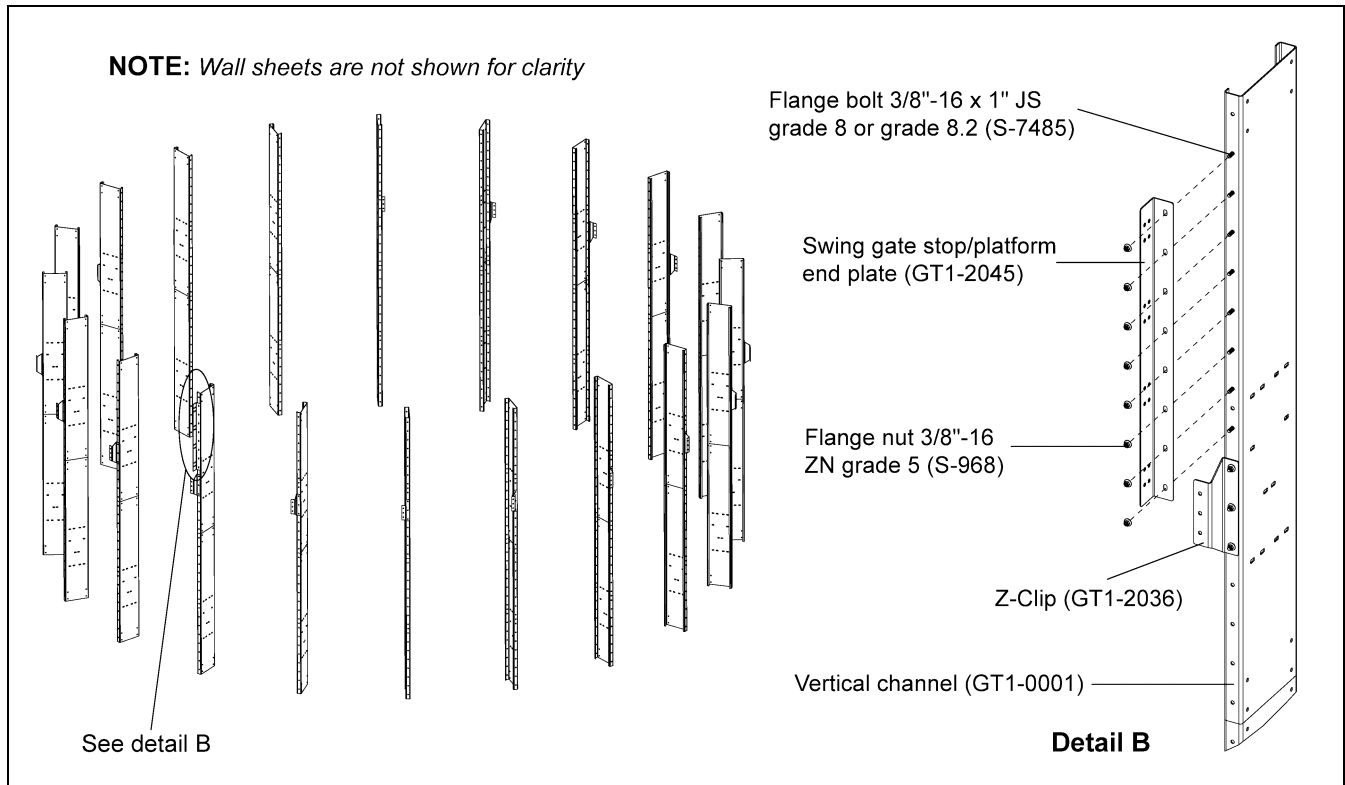
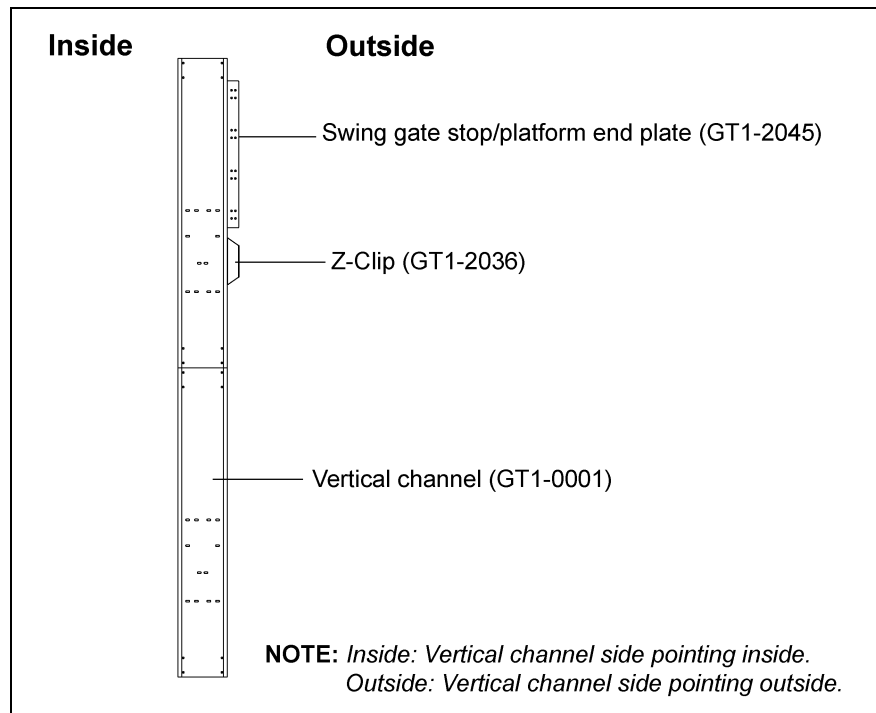

Figure 4C
Figure 4D
1. Identify the ladder opening vertical channel and install the swing gate stop (GT1-2045) to the vertical channel (GT1-0001) as wall sheets are installed using 3/8"-16 x 1" JS grade 8 or grade 8.2 bolts (S-7485) and 3/8"-16 ZN grade 5 nuts (S-968). *(See Figure 4C and Figure 4D.)*